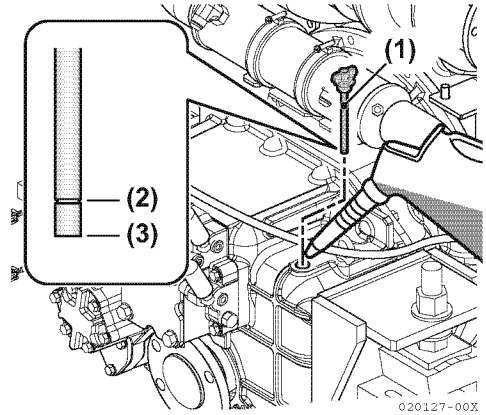

Figure 10
2. **NOTICE:** Prevent dirt and debris from contaminating the marine gear oil. Carefully clean the filler cap / dipstick and the surrounding area before you remove the filler cap / dipstick. Remove filler cap / dipstick (**Figure 10, (1)**) and wipe with clean cloth.
4. Remove dipstick. The oil level should be between upper (**Figure 10, (2)**) and lower (**Figure 10, (3)**) lines on the dipstick. *NOTICE: ALWAYS keep the marine gear oil level between the upper and lower lines on the dipstick.*
2. Remove the filler cap / dipstick (**Figure 10, (1)**) at the top of the housing.
3. Fill with oil to the upper limit on the dipstick (**Figure 10, (2)**). See *Marine Gear Oil Specifications* on page 40. *NOTICE: NEVER overfill the marine gear with oil.*